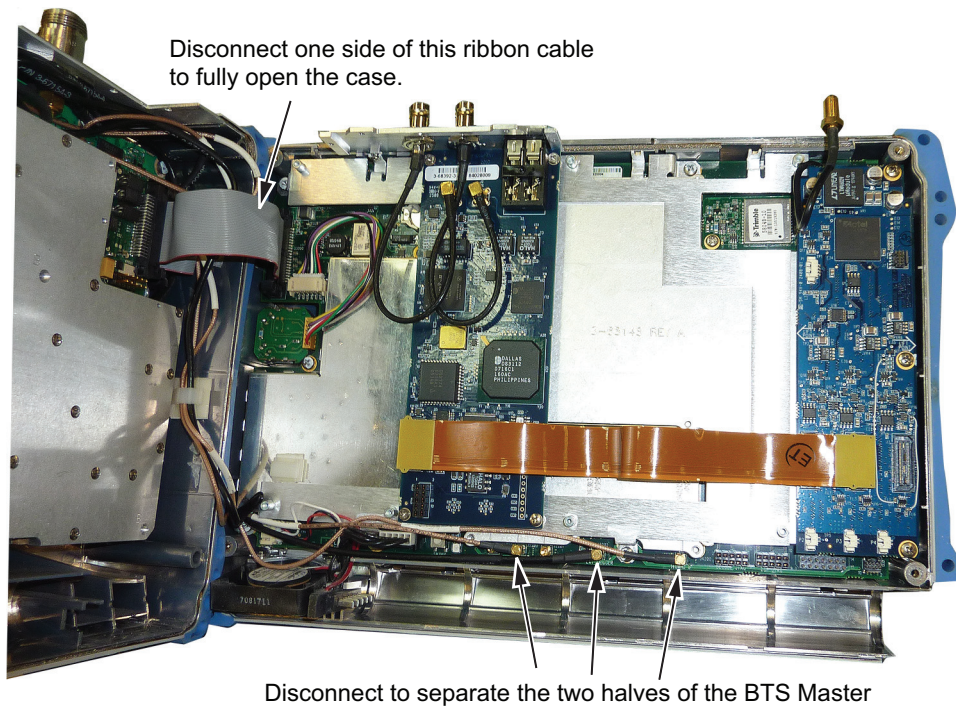
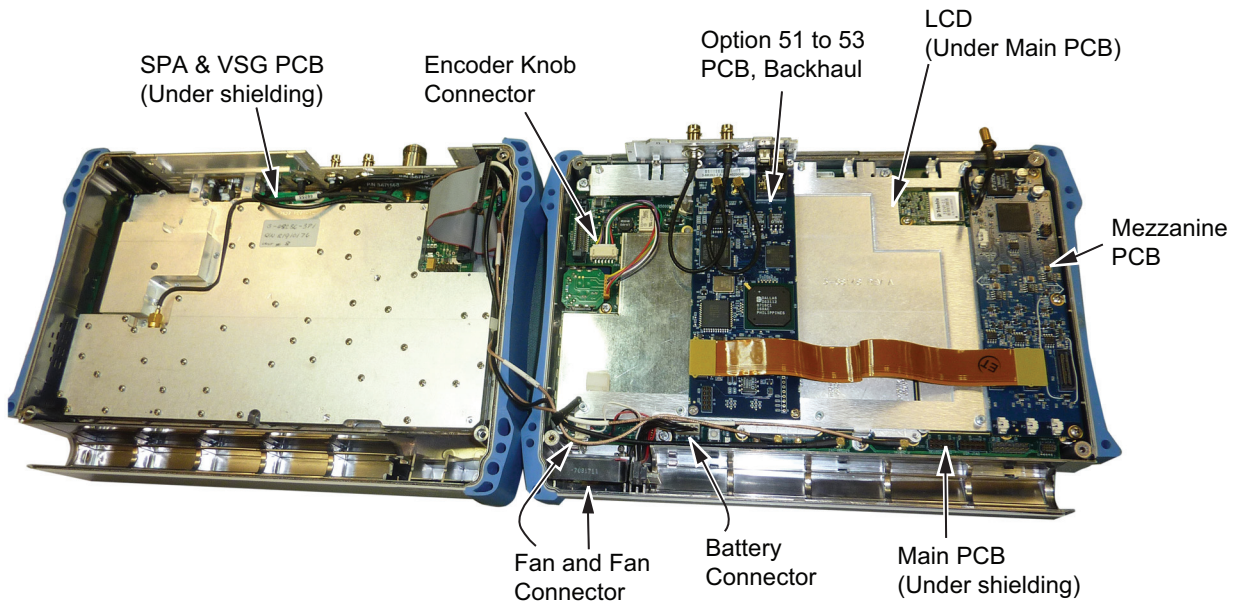

Figure 7-3. Disconnect the Ribbon Cable
Figure 7-4. BTS Master Opened 180 Degrees
Do not force or pull the two halves of the case apart completely, there are delicate cables attached between the two halves that must be disconnected first. Refer to Figure 7-3 and Figure 7-4. Note the position and routing of the cables, they should be similarly routed when the unit is reassembled.
11. The two halves of the instrument can now be safely separated (Figure 7-4). Refer to the following sections to remove and replace specific components of the instrument.
This procedure provides instructions for replacing the Main PCB assembly. The Main PCB assembly is located in the front panel half of the instrument (**Figure 7-4**).